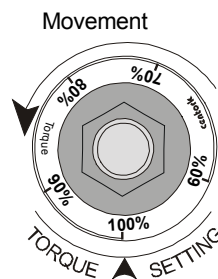

Fig. 8.6.4
- Using a No.17 wrench, turn the P Torque regulator or **Torque Limit Device** until the desired torque matches with the **S torque reference** arrow on the dial. (Figures 8.6.4 and 8.6.5)